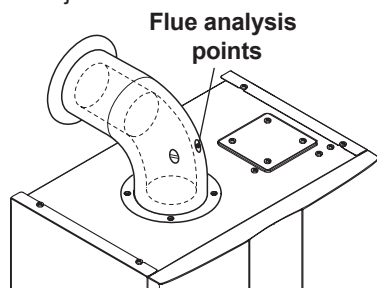

Fig. 10.11
It is recommended that a combustion analysis check is made. Remove the plug as indicated in Fig. 10.11 and carry out combustion analysis check and adjustment if necessary as described in the section Gas valve - Adjustment of the Service manual.
- Check the combustion of the boiler using the outlets located on the flue tubes (Fig. 10.11) and compare the data measured with that following.